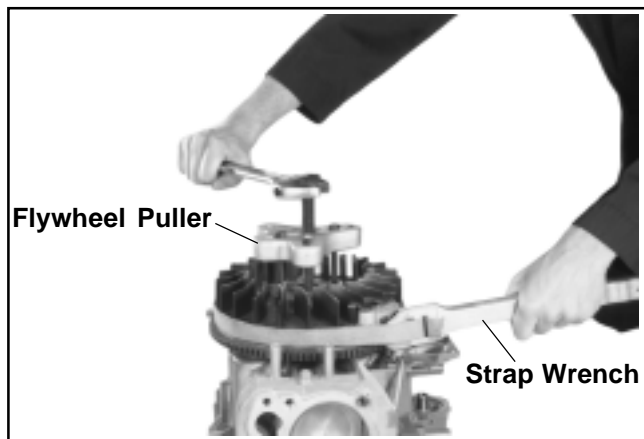

Figure 9-33. Removing Flywheel with a Puller.
3. Remove the flywheel from the crankshaft using a puller. See Figure 9-33.